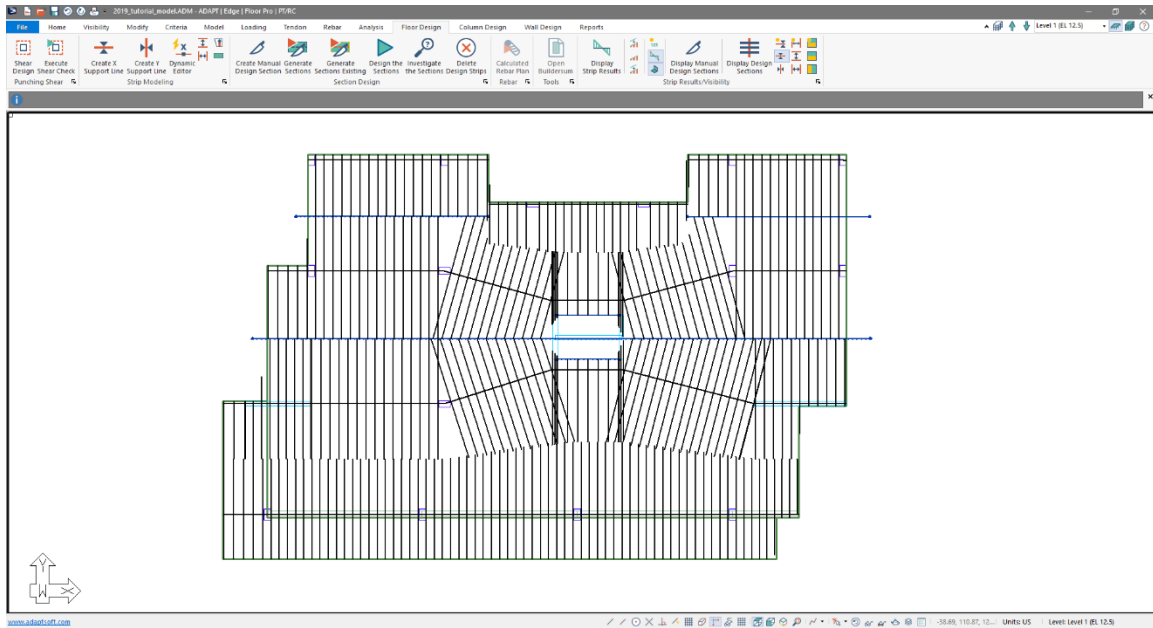

Figure 9-30
- Go to *Floor Design* → *Section Design* and click on the *Generate Sections New* icon. When the process is completed the user should see design sections cut as shown in **FIGURE 9-30**.